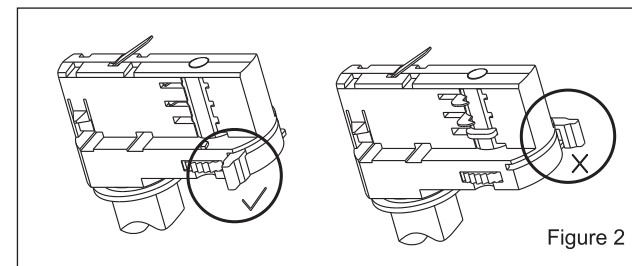

Figure 2
3. Before installation, adjust handle 1 to the position shown in the diagram (Figure 2).